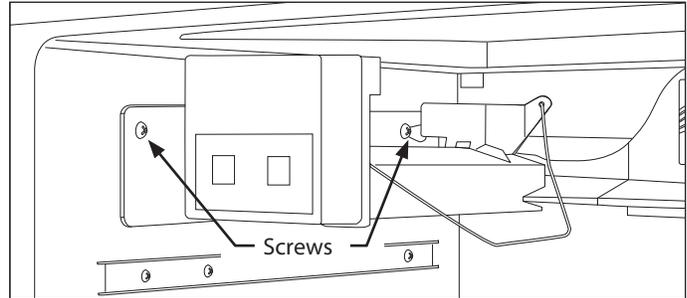

Figure 6-95.
6. Extract the one screw at the front of mounting plate. (See Figure 6-95)